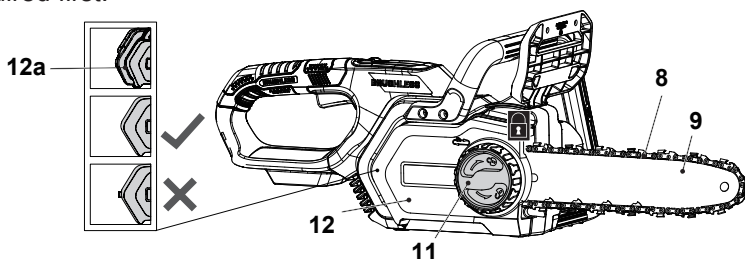

Fig. 6
7. Refit the chain saw cover (12) and slightly tighten the locking wheel (11) clockwise (Fig. 6). Ensure that the spigot (12a) engages correctly in the slot.